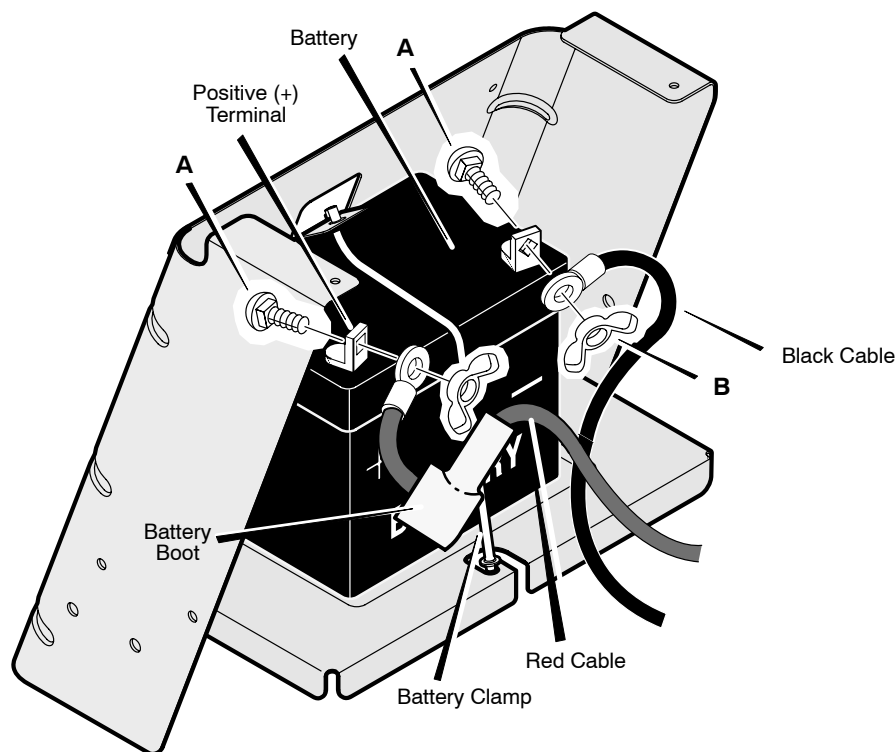

Figure 22
1. Disconnect the **black cable** from the **negative (-) terminal** (Figure 22).